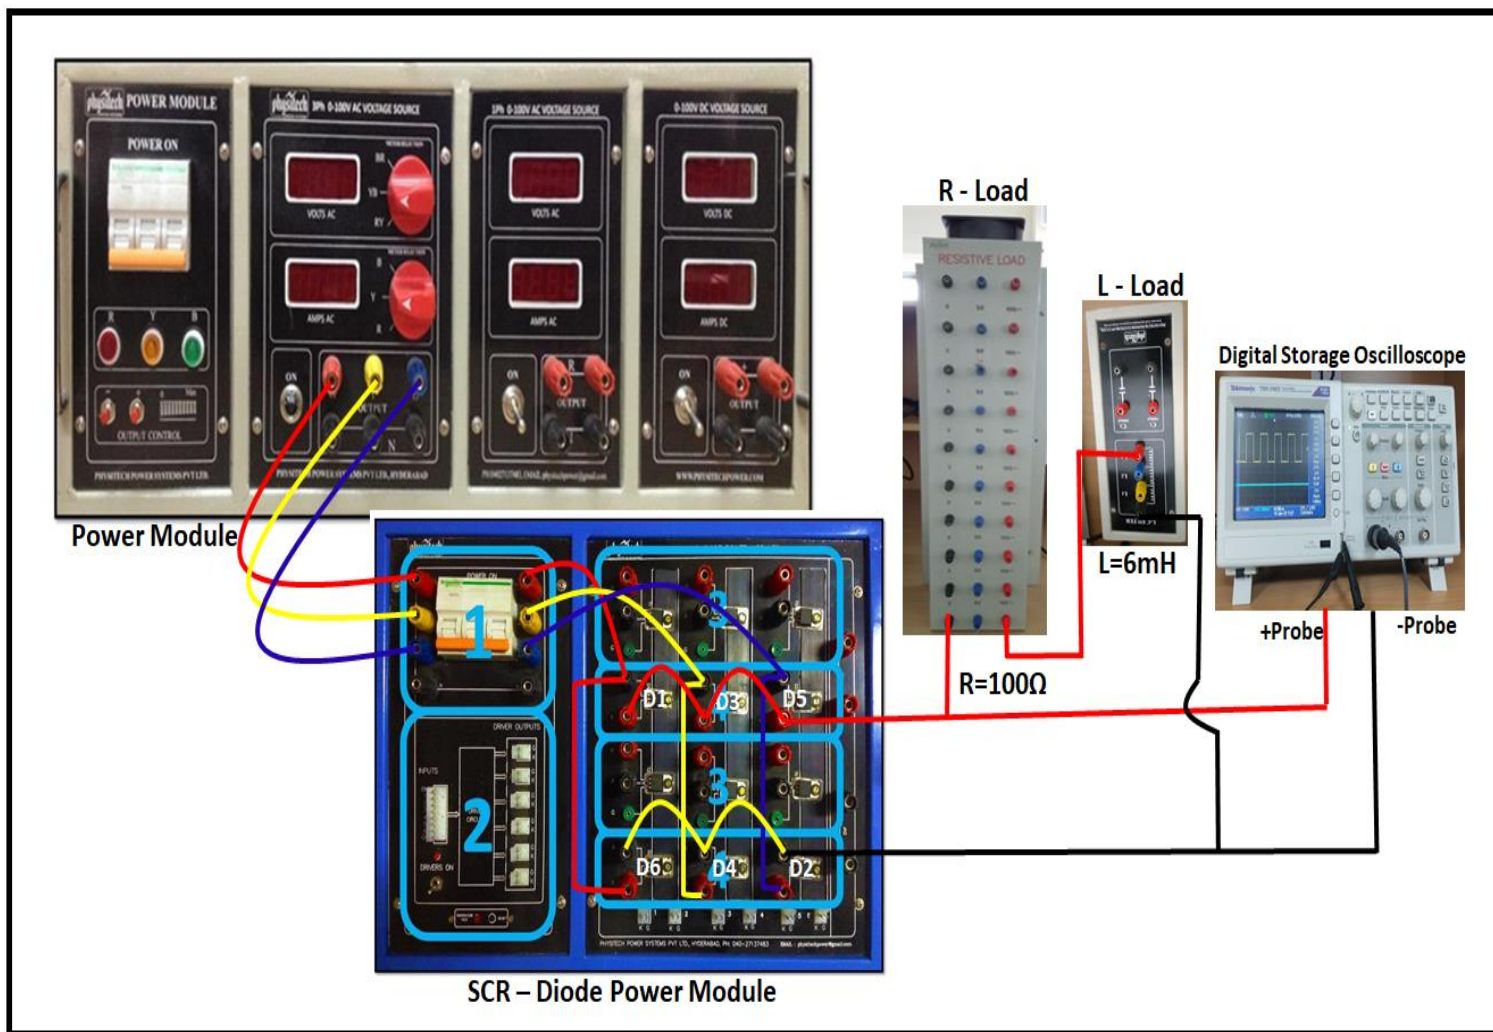

Fig. 5
1. Connect the circuit as shown in Fig. 5 (RL load (**$R=100\text{ ohms}$, $L=6\text{mH}$**)).